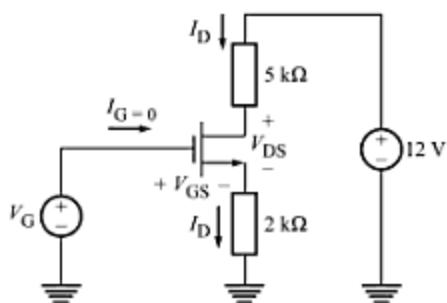

Fig. A-113
- A-80 Figure A-113 shows a field-effect-transistor (FET) circuit. Without knowing the current-voltage relationship for the device, we can still solve this circuit since it obeys Ohm's law and Kirchhoff's laws. (a) Determine  $V_{DS}$ , if  $I_D = 1.5 \text{ mA}$ . (b) Determine  $V_{GS}$ , if  $I_D = 1 \text{ mA}$  and  $V_G = 3 \text{ V}$ .